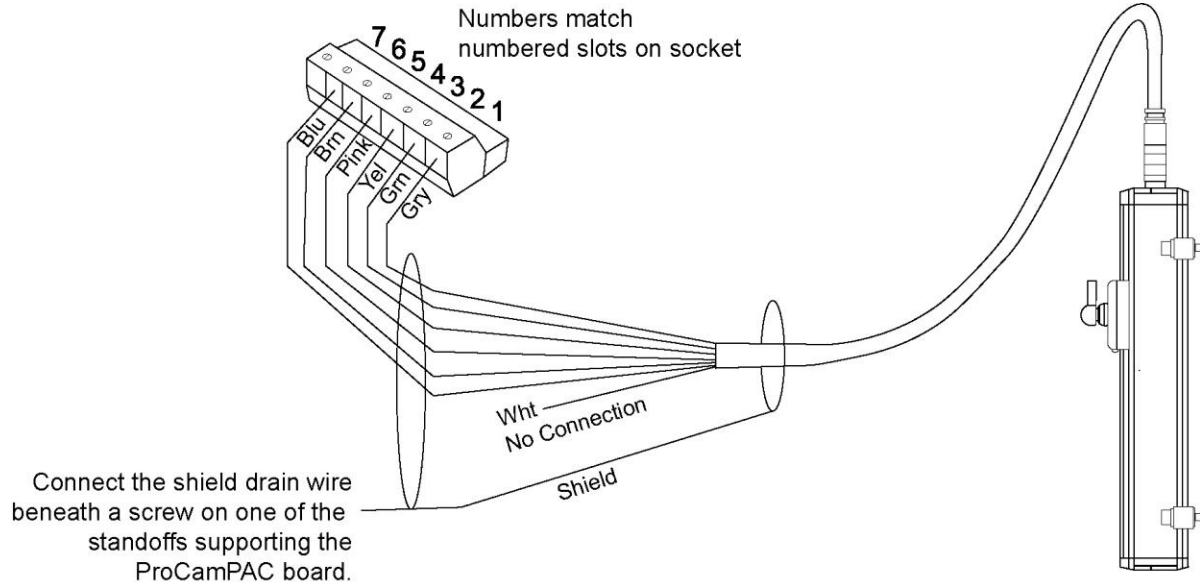

Figure A- 2. Balluff Linear Transducer Pinout
4. Unplug the connector from TB402, and attach transducer wires as shown in Figure A- 2, below, Figure A- 2, and Figure 6 (8-channel ProCamPAC) or 7 (15-channel ProCamPAC) at the end of the manual.